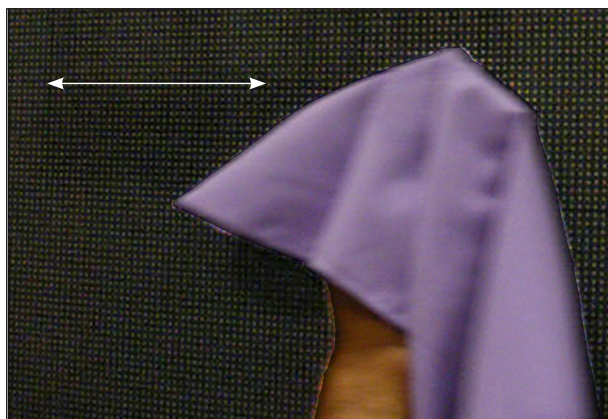

Figure 4: Wipe Module Left and Right
4. Repeat **Step 2** and **Step 3** in a left-to-right motion. Refer to **Figure 4**.